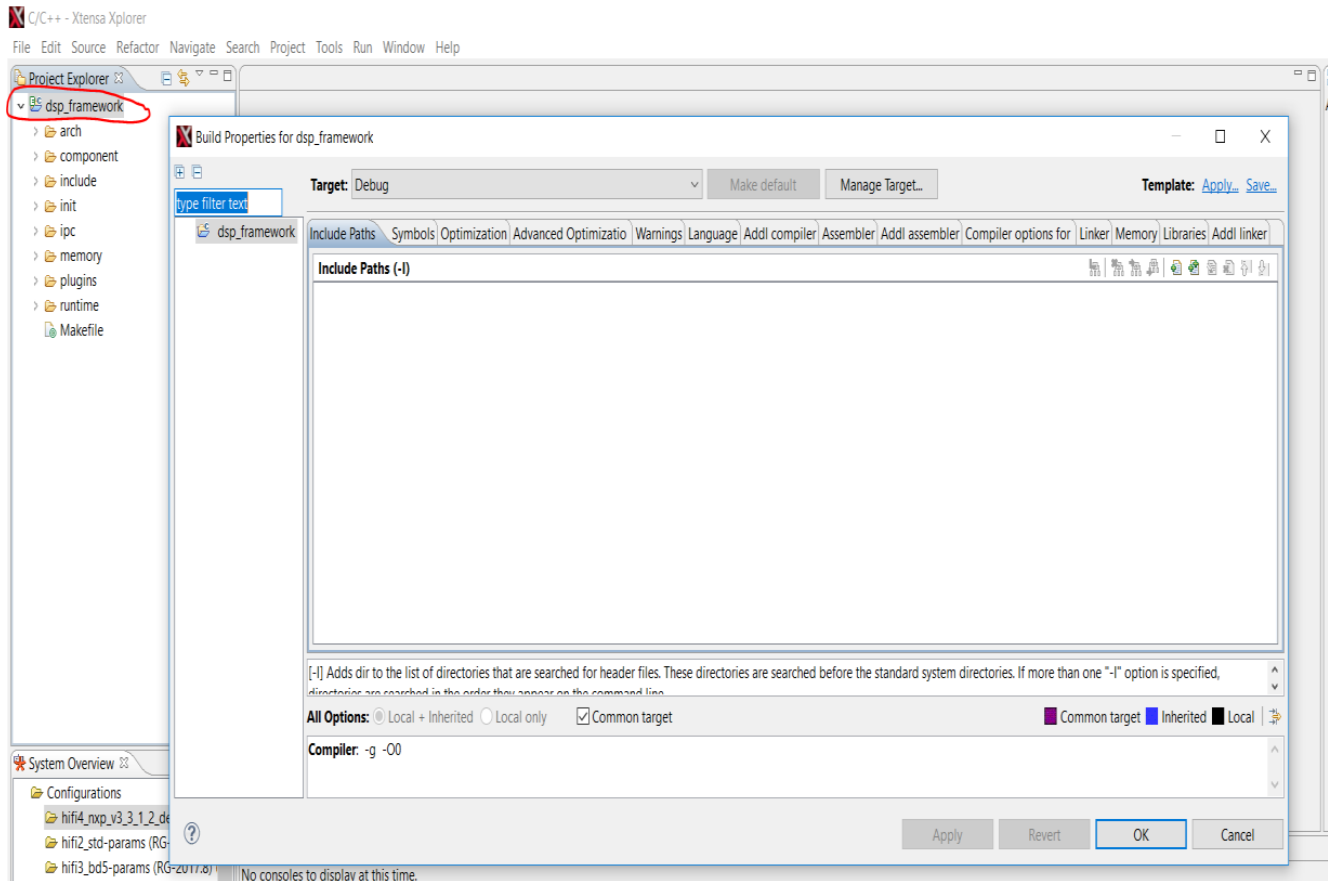

Figure 8. “Build Properties” dialog
- Click the “Linker” option and configure the custom LSP path as shown in Figure 8. Click the “OK” button to finish this process.